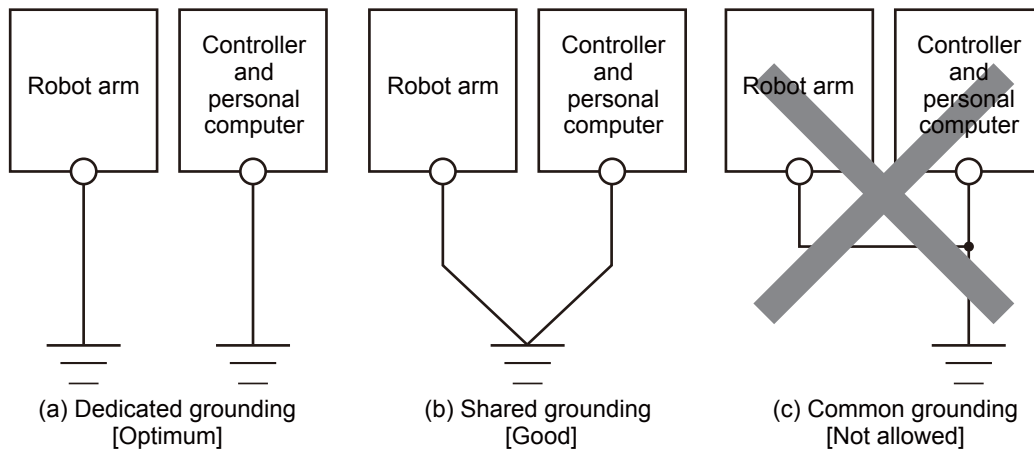

Fig.2-3: Grounding methods
- 1) As indicated in Fig. 2-3, there are three ways of grounding (earthing) the RV-5AS. The most preferable of the three is "a". Do not use "c". For information on grounding (earthing) the robot controller, refer to the separate Instruction Manual "Controller Setup and Maintenance".